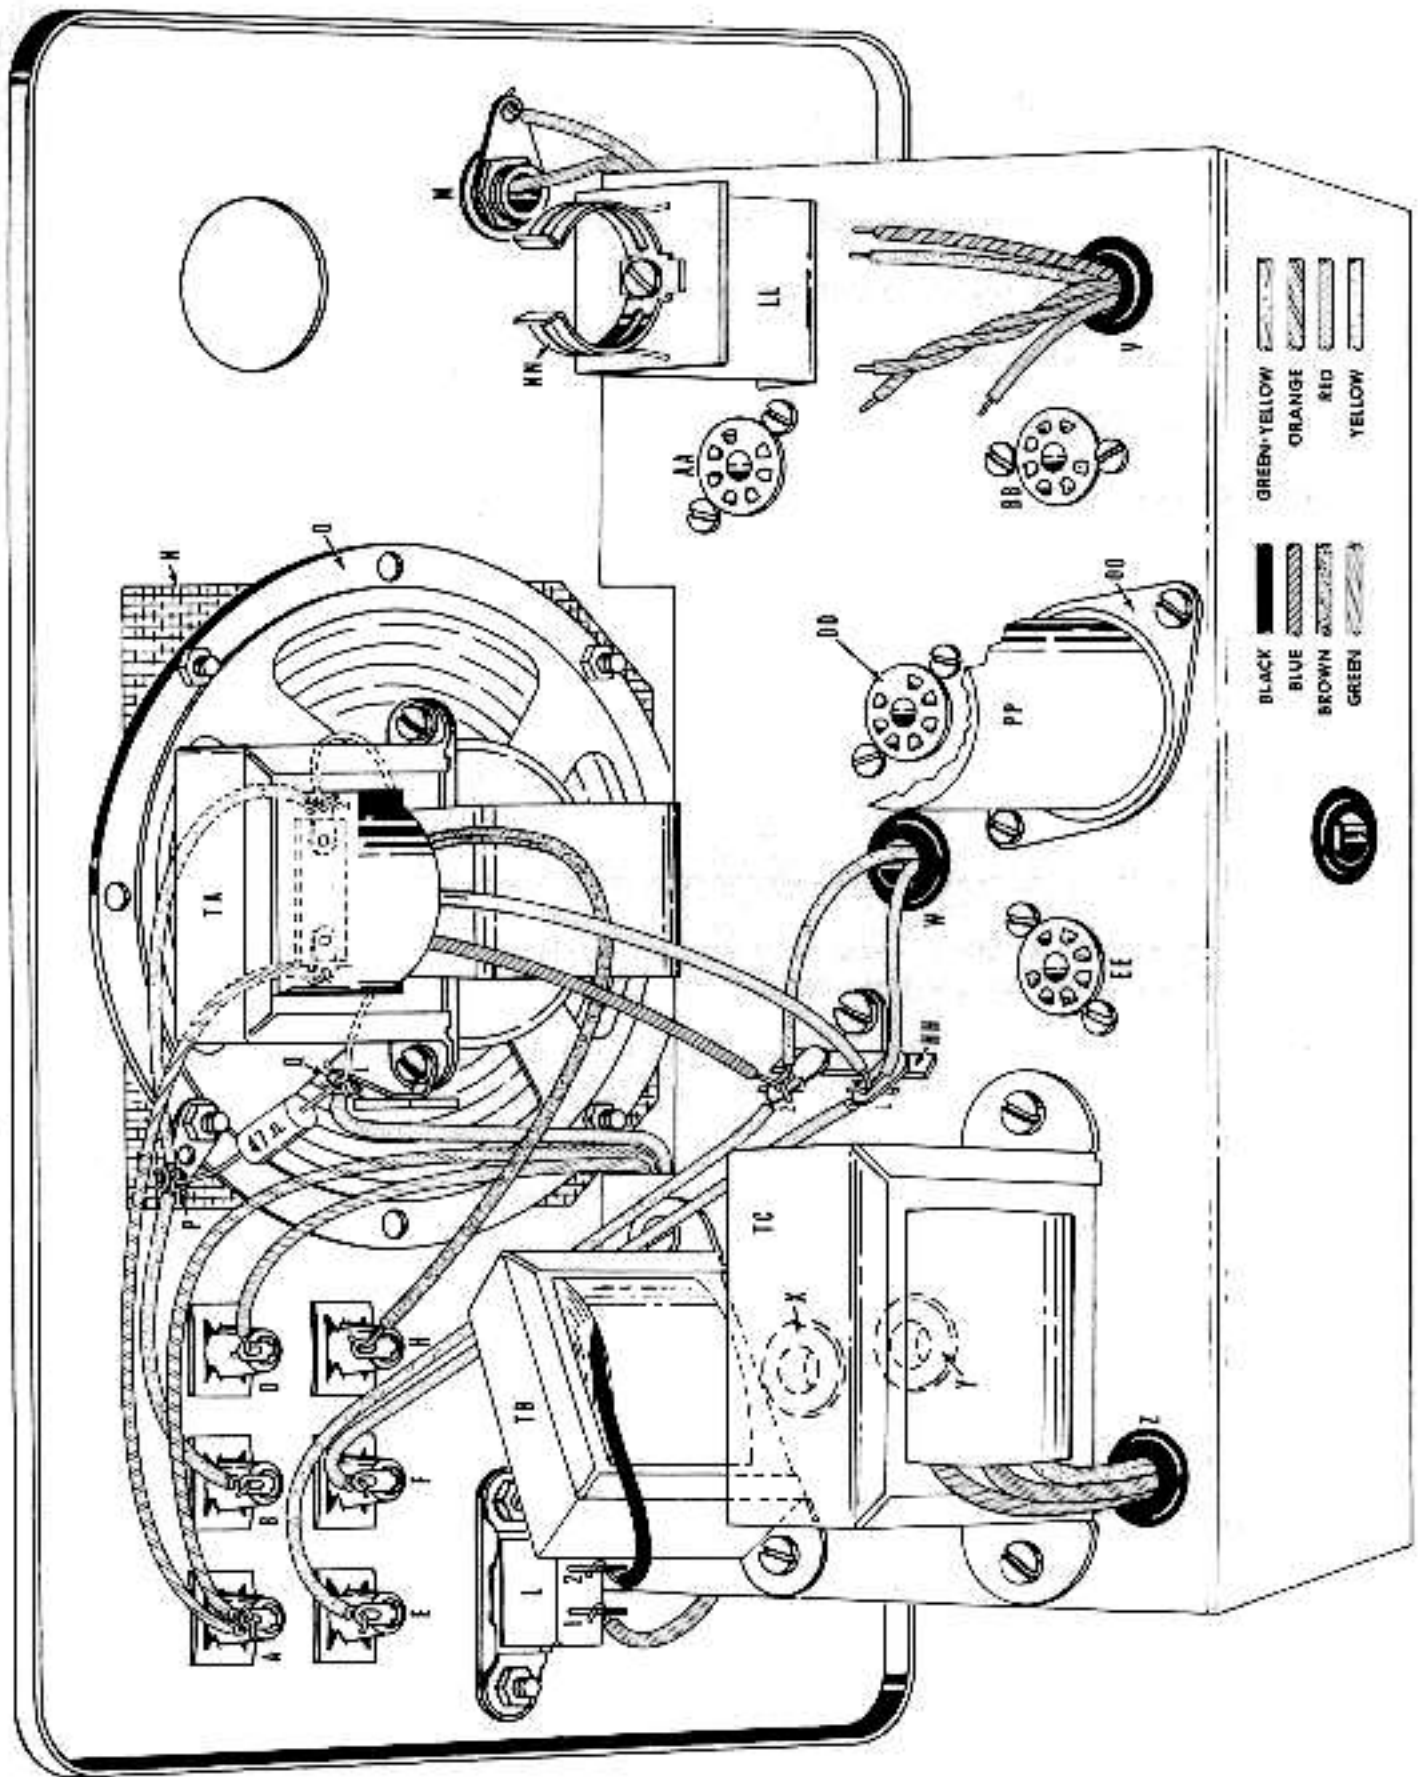

FIGURE 9
#### REFER TO FIGURE 9
- ( ) 79. Connect the loose end of the red hook-up wire extending through speaker cut-out from SB7 to Q1 (Don't Solder). Dress red wire as shown in Figure 9.
- ( ) 80. Connect the loose end of the green hook-up wire extending through speaker cut-out from SB6, to pin jack D (Solder). Dress green wire as shown in Figure 9.
- ( ) 81. Connect the loose end of the orange hook-up wire extending through speaker cut-out from SB8, to pin jack A (Don't Solder). Dress orange wire as shown in Figure 9.
- ( ) 82. Connect a 5-1/2" length of orange hook-up wire from pin jack A (Solder), to O1 (Solder). Dress orange wire as shown in Figure 9.
- ( ) 83. Connect a 6-1/2" length of yellow hook-up wire from pin jack E (Solder), to HH2 (Don't Solder). Dress yellow wire as shown in Figure 9.
- ( ) 84. Connect a 6-1/2" length of red hook-up wire from pin jack F (Solder), to HH1 (Don't Solder). Dress red wire as shown in Figure 9.
- ( ) 85. Connect the loose end of the yellow hook-up wire extending through grommet W from DD5, to HH2 (Don't Solder). Dress yellow wire as shown in Figure 9.
- ( ) 86. Connect the loose end of the red hook-up wire extending through grommet W from DD6, to HH1 (Don't Solder). Dress red wire as shown in Figure 9.